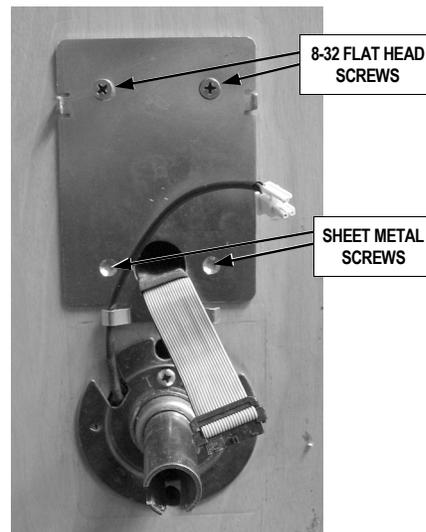

FIG. 13: SECONDARY MOUNTING PLATE INSTALLATION
2. Position secondary mounting plate and pull the ribbon cable through the mounting plate opening--be sure not to pinch or cut the wires. Fasten secondary mounting plate with two 8-32 flat head screws and two sheet metal screws (do not over-tighten). **Note:** Be sure the mounting plate is perfectly vertical before installing sheet metal screws. See Fig. 13 for screw locations. **Note:** As you tighten the screws, the secondary